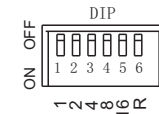

Fig. 3
1. DIP switch setting: DIP1-3 as program switch, please see setting as follow(1=ON, 0=OFF), DIP 4-5 is blank, DIP 6 is for remote controller (fig. 3)